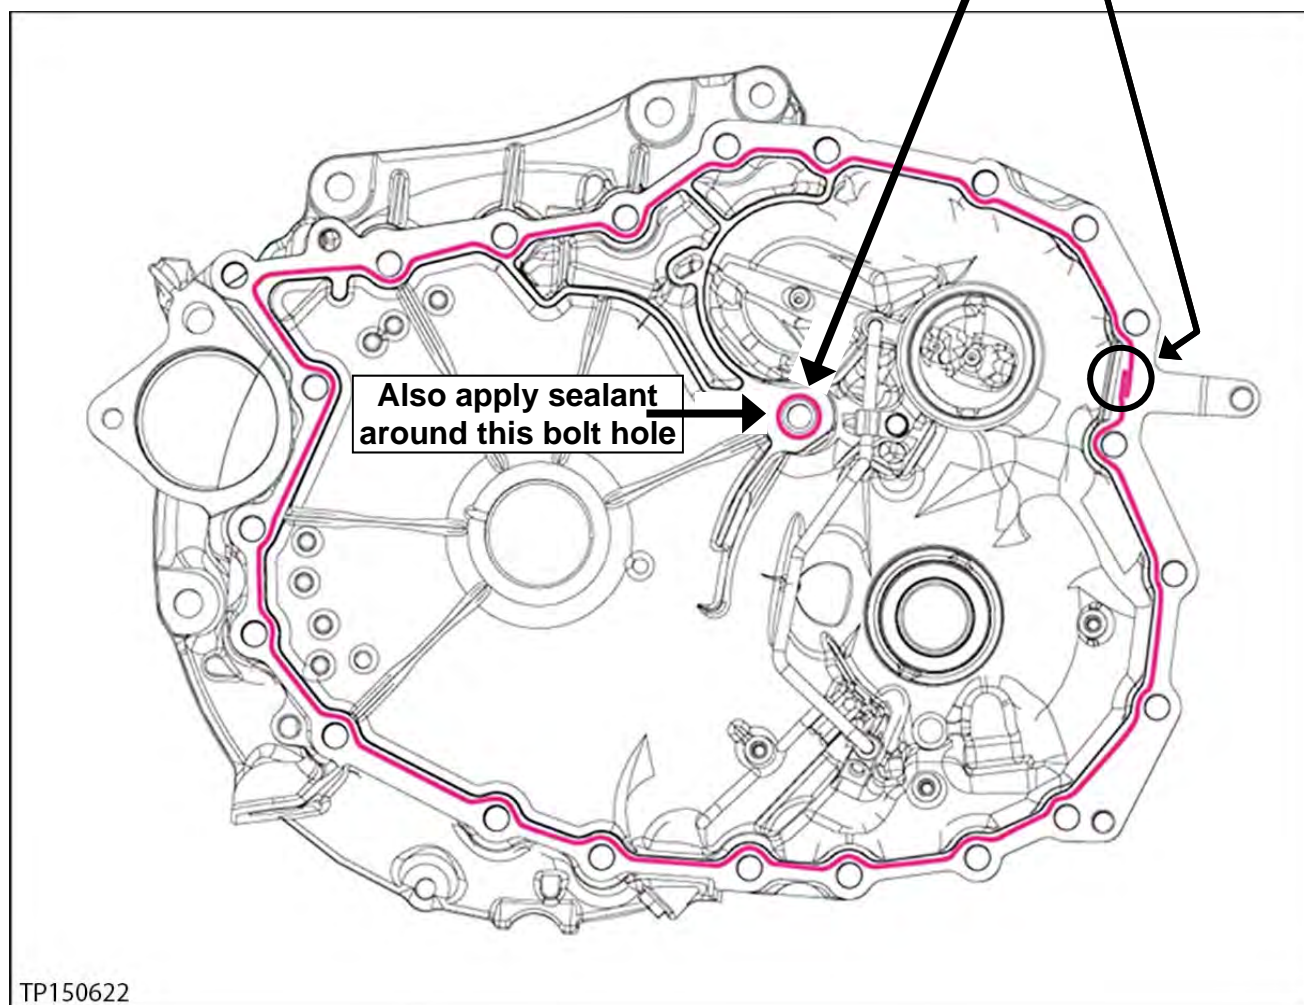

Figure 173
140. Apply one continuous 2.0 mm (**0.8 inches**) diameter bead (Figure 173) of pink colored Loctite 5460 Sealant (see the Parts Information section of this bulletin).
- Before sealant application, make sure the mating surfaces are clean from oil, dirt, old sealant, etc. (Figure 173).